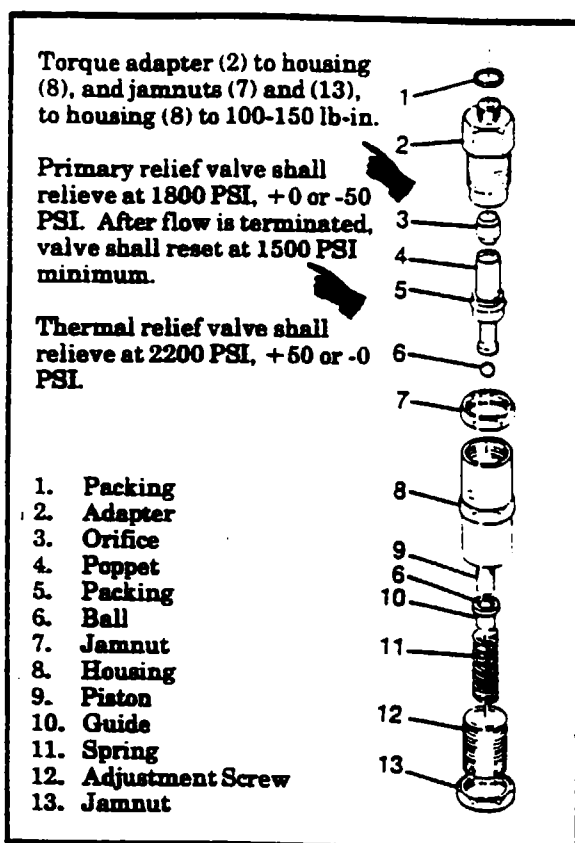

Figure 5-4. Relief Valve Assembly
The primary relief valve (14), located between the self-relieving check valve (20) and hydraulic pump (15), serves to limit that amount of pressure which can be generated by the hydraulic pump. The thermal relief valve (8), located on the system side of the self-relieving check valve (20), serves to limit the system pressure. System pressure can increase due to thermal expansion. Both valves are identical except for differing pressure relief settings (refer to figure 5-4).
5-12A BENCH CHECK OF PRIMARY AND THERMAL RELIEF VALVES. (Refer to figure 5-4).